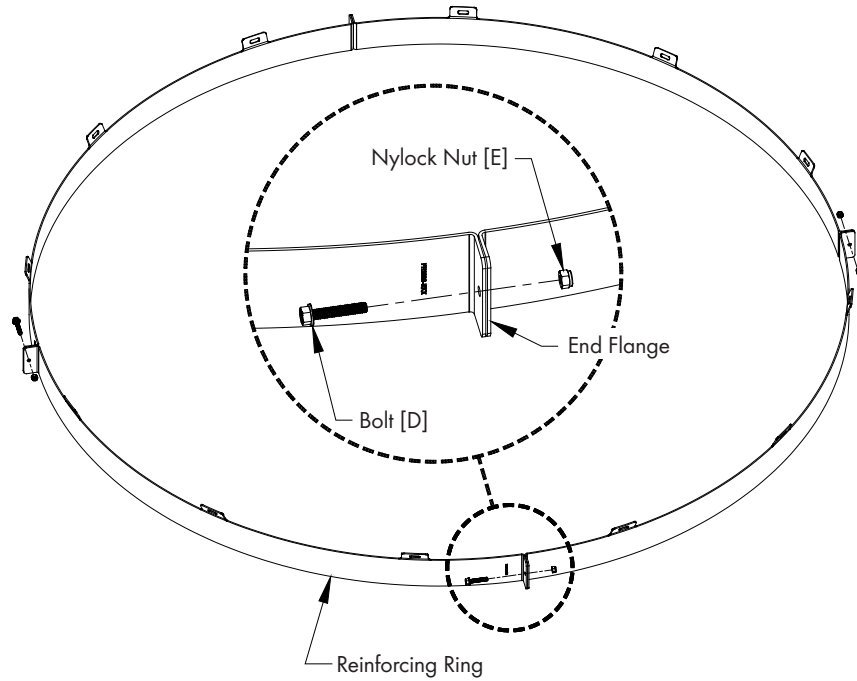

Figure 4
Lay (4) Reinforcing Rings in a circular pattern on a flat surface with the tabs facing up. Fasten the Rings together at the End Flanges using (3) Bolts [D] and Nylock Nuts [E], leaving one pair of the End Flanges unattached. *See Figure 4.*